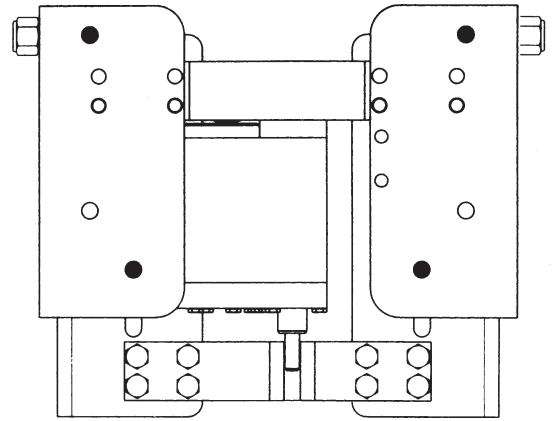

FIG. 7
Step 7: The PT-130 is designed for 130 h.p. and smaller motors. Mount standard B.I.A. motor on the PT-130 using the four predrilled holes (FIG. 7) and the 1/2" - 13 X 3 bolts, 1/2" - 13 hex nuts and washers furnished with the unit.